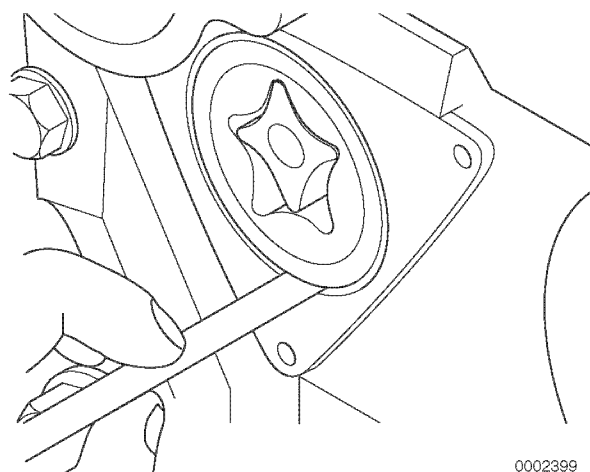

Figure 6-71
4. Use a feeler gauge to measure the outer rotor-to-housing clearance (Figure 6-71). Record the measurement.